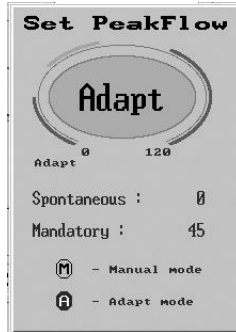

Figure 50: The Set Flow Pop-Up Window
2. Press the Control Knob to display the **Peak Flow** pop-up window (Figure 50).